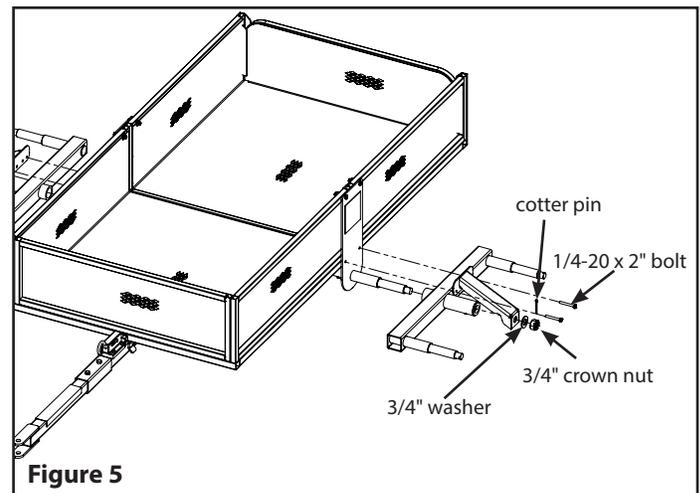

Figure 5
7. Support the trailer off of the ground for the assembly of the tracking beams, braces and wheels. Slide the tracking beam (300721) onto the threaded axle first, followed by the brace (300724), a 3/4" washer, and the 3/4" castle nut. Back the crown nut off just enough so the tracking beam will pivot freely and crown nut slot aligns with hole in threaded axle spindle. Insert cotter pin and bend tangs over with a needle nose pliers so it will not come out. Insert (4) 1/4-20 x 2" bolts through the brace (300724), the splice plate (300705), and the front and rear trailer frames (300713) and (300710). Slide (4) 1/4" washers onto the bolts followed by the (4) 1/4" nuts. Repeat this step for the remaining tracking beam. **SEE FIGURE 5**